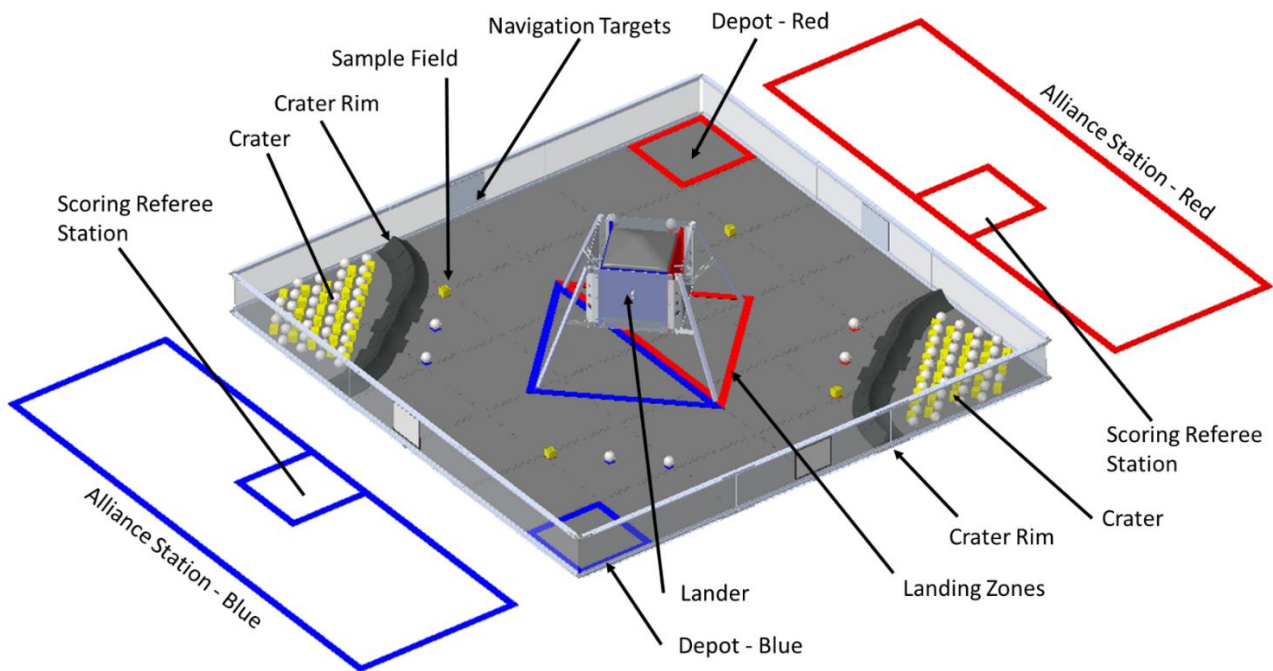

Figure 1.3-1 – Isometric view of the *Playing Field*
Matches are played on a *Playing Field* initially set up as illustrated in Figure 1.3-1 below. Two *Alliances* – one “Red” and one “Blue,” composed of two *Teams* each – compete in each *Match*. The object of the game is to attain a higher *Score* than the opposing *Alliance* by descending from the *Lander*, collecting *Minerals* from the *Crater*, sorting and *Scoring Minerals* into the *Cargo Hold* of the *Lander*, performing *Autonomous* tasks, and navigating to specific parts of the *Playing Field*. The *Scoring Elements* for the game are 60 *Silver Minerals* and 90 *Gold Minerals*, and a *Team* supplied *Team Marker*. The game is played in two distinct periods: *Autonomous* and *Driver-Controlled*.
Crater – An Area surrounded by the *Playing Field Wall* and the Outer edge of the *Crater Rim* into which the *Minerals* are placed prior to the start of a *Match*. There are two (2) *Craters* located in opposite corners of the *Playing Field*. See Figure 1.3-1 for the location of the *Craters*.
Lander – The structure on the *Playing Field Floor* where *Robots* may begin the *Match* and includes the *Cargo Hold Scoring Areas* where *Robots* deposit *Minerals*. See Figure 1.3-1 for the location of the *Lander*.